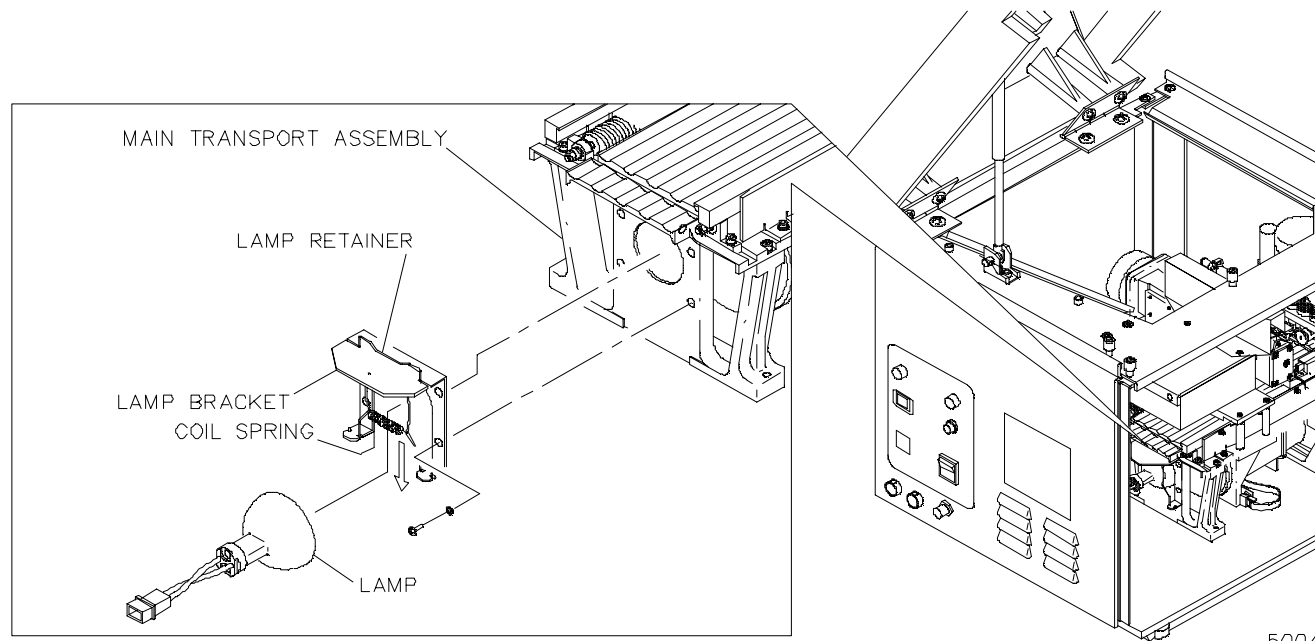

Figure 4-47. Lamp Spring Retainer
7. Disengage one side of lamp retainer (**Figure 4-47**).